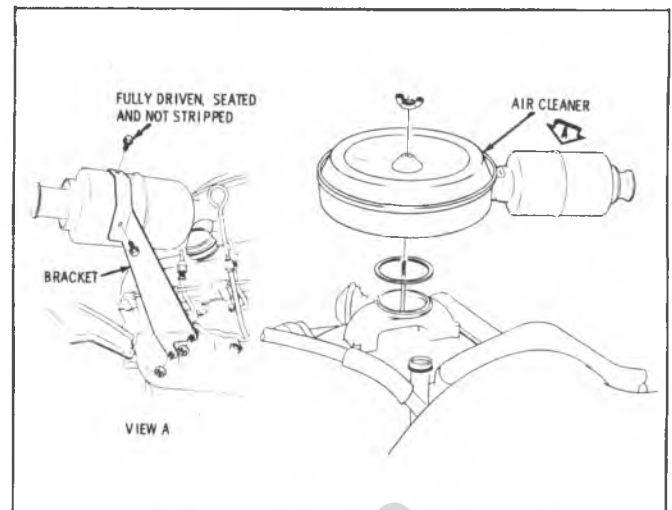

Fig. 6A6-17--Air Cleaner Attachment
INJECTION PUMP FUEL LINES (Fig. 6A6-10)
1. Remove air cleaner. (Fig. 6A6-17).